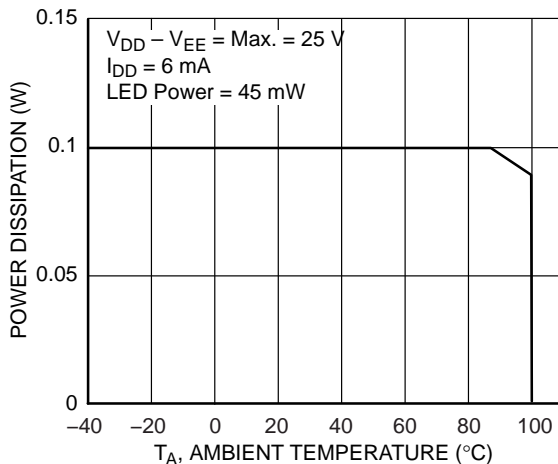

Figure 13. Absolute Maximum Power Dissipation vs. Ambient Temperature
3. Derate linearly above +87°C, free air temperature at the rate of 0.77 mW/°C. Refer to Figure 13.
The absolute maximum output power dissipation versus ambient temperature is shown in Figure 13. The output driver is capable of supplying 100 mW of output power over the temperature range from -40°C to 87°C. The output derates to 90 mW at the absolute maximum operating temperature of 100°C.